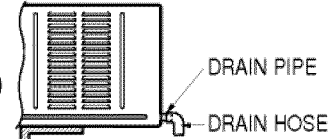

Fig. 1
2. Connect a drain hose of $\frac{9}{16}$ " inside diameter to the drain pipe as shown in Fig. 1.